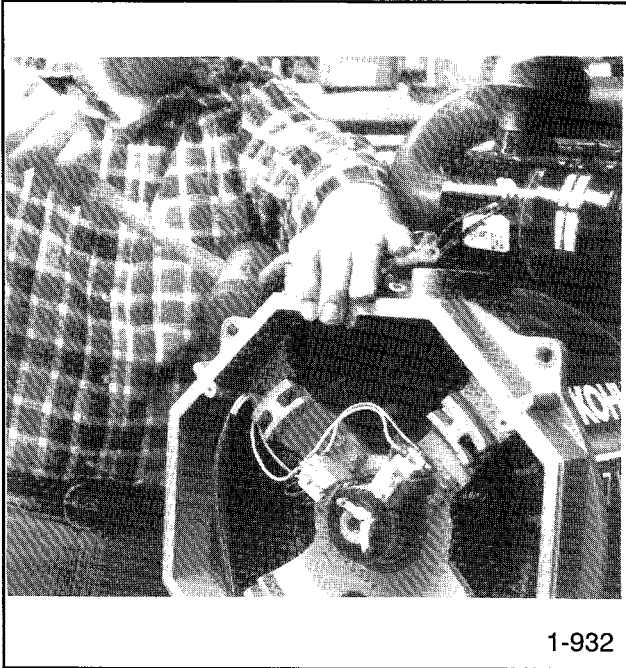

Figure 8-10. Removing the End Bracket.
19. Remove the end bracket by bumping with a soft rubber mallet on end bracket flanges. See Figure 8-10.